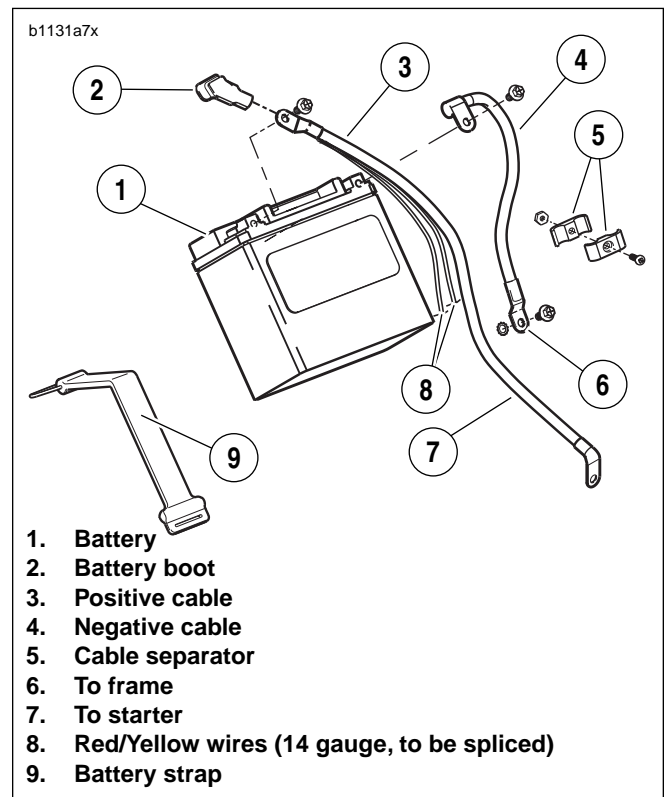

Figure 7-38. Battery
1. See Figure 7-38. Disconnect negative and positive cables from battery, negative cable first.
3. See Figure 7-38. Remove protective rubber boot from starter fastener. Remove fastener with washer to detach positive battery cable from starter.
- a. See Figure 7-38. Positive battery cable runs from starter to positive battery terminal.
- a. See Figure 7-38. First, connect positive cable to starter using fastener with washer. Tighten fastener to 60-85 **in-lbs** (7-10 Nm).